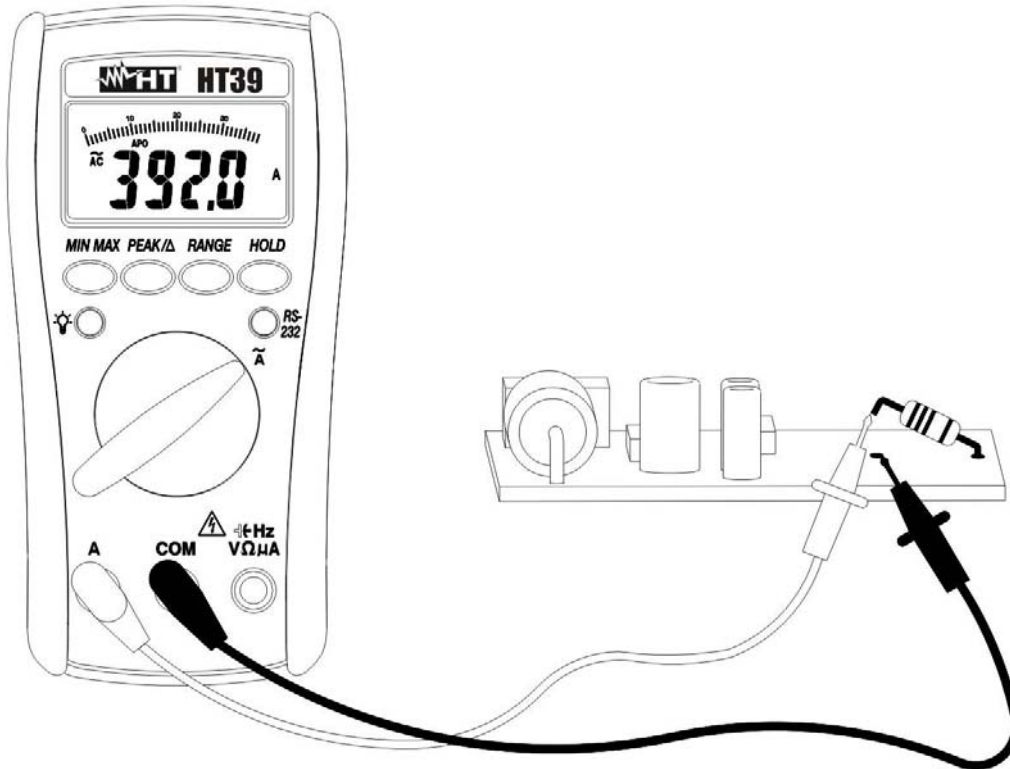

Fig. 6: AC Current measurement
3. Insert the test leads into the jacks, the red plug into **A** jack and the black plug into **COM** jack (Fig. 6).
4. Connect red and black plugs in series with the circuit under test as indicated in Fig. 6.